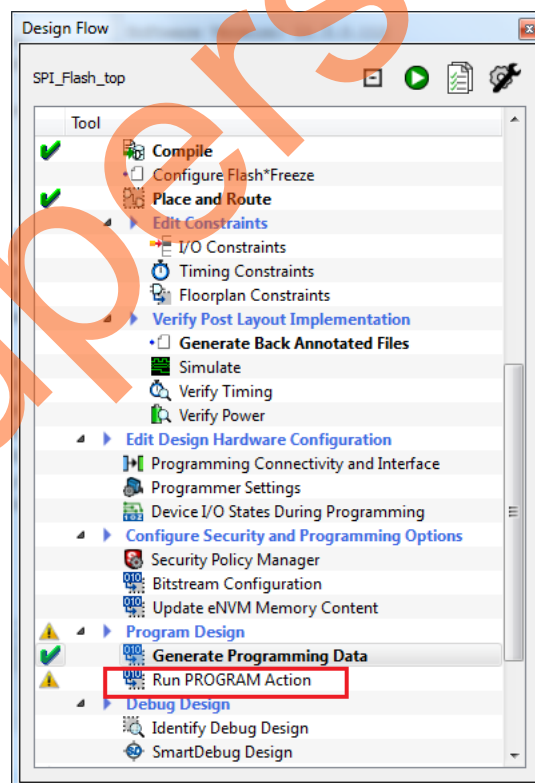

Figure 28 • Run Programming Action
5. To program the SmartFusion2 device, double-click **Run Programming Action** in the **Design Flow** window as shown in Figure 28.